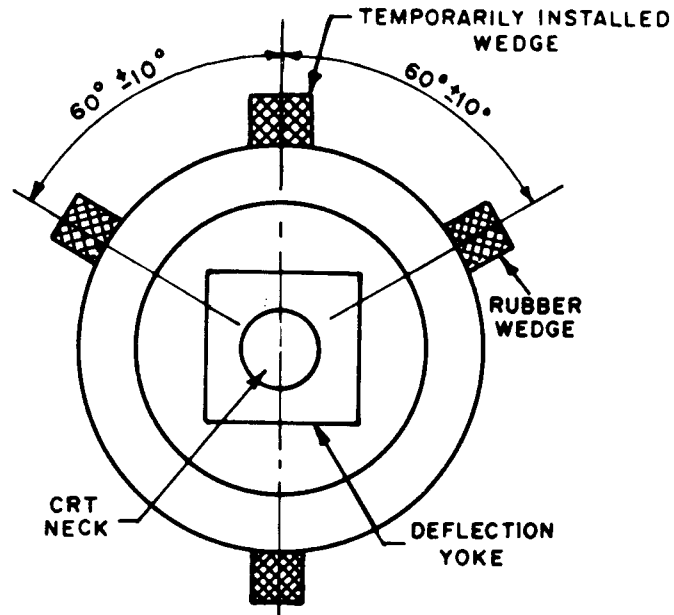

FIG. 7
- 4) The position of each rubber wedge is shown in Fig. 7.